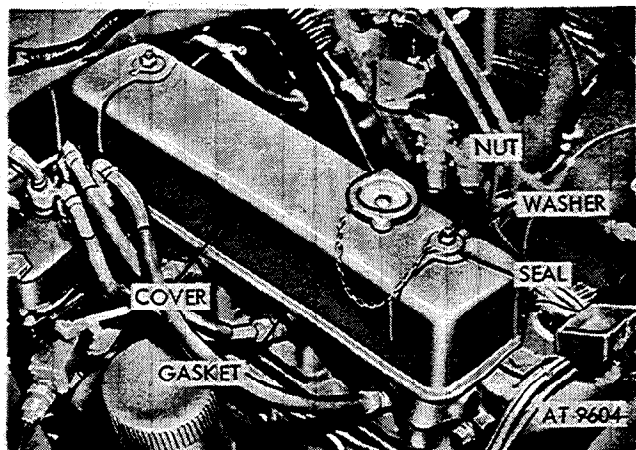

Figure 2-57. Remove rocker arm cover and gasket.
(6) Remove two rocker arm cover nuts, washers and seals (fig. 2-57).
(7) Remove rocker arm cover and gasket. Remove gasket from cover and discard gasket.
*b. Installation.* To install the cylinder head reverse removal procedures and refer to figures 2-65 back through figure 2-57.